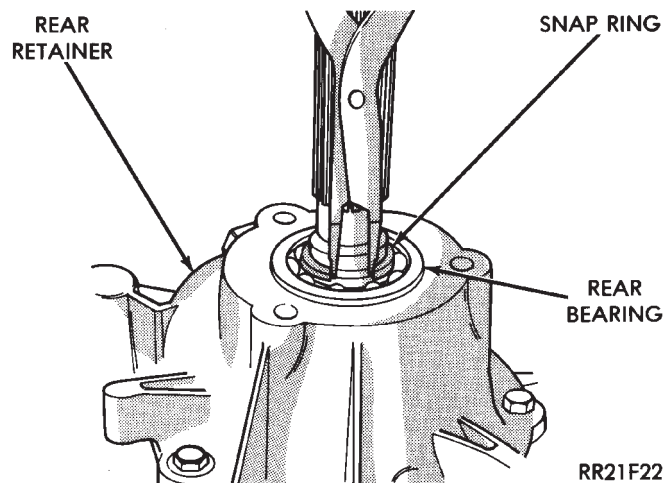
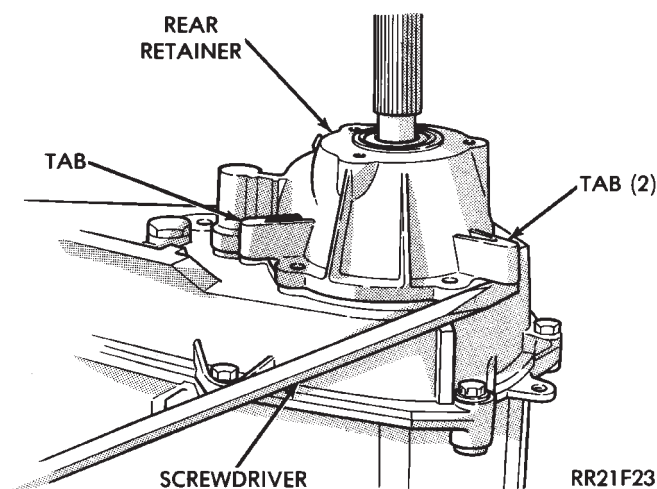

Fig. 2 Rear Bearing Snap Ring Removal
Fig. 3 Rear Retainer Removal
(6) Remove rear bearing snap ring (Fig. 2).
(7) Remove rear retainer attaching bolts.
(8) Remove rear retainer. Position screwdriver under each tab on retainer housing (Fig. 3). Then carefully pry retainer upward and off rear case.